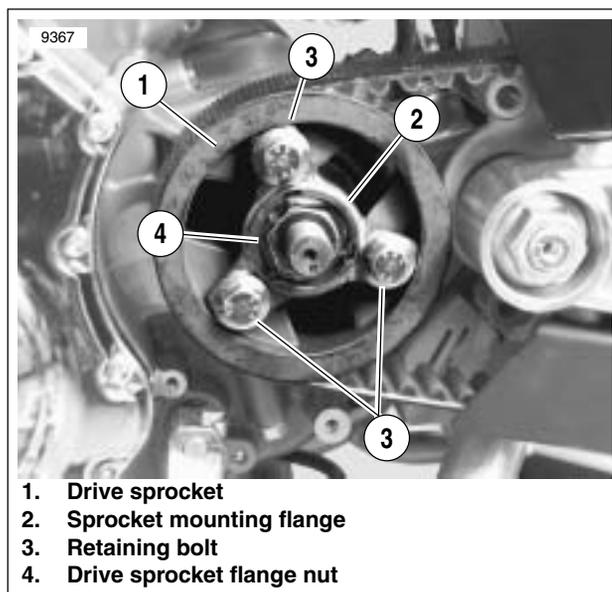

Figure 2-15. Drive Sprocket
36. See Figure 2-15. Loosen retaining bolts (3) holding drive sprocket (1) to sprocket mounting flange.
38. See Figure 2-15. Remove retaining bolts (3) from drive sprocket. Discard bolts (3).
39. Rotate sprocket (1) to fit spoke pattern of mounting flange (2) and remove sprocket (1).